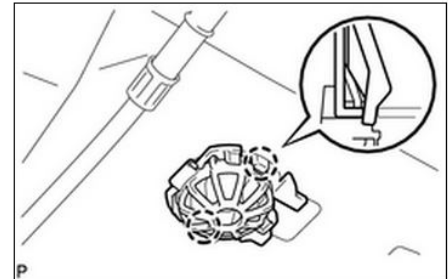

Figure 25
1. REMOVE NO.1 LUGGAGE COMPARTMENT LIGHT ASSEMBLY (Figure 25).